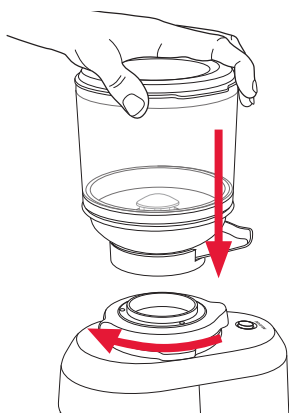

Figure 1
2. To attach the bean hopper, align the arrow on the hopper with the arrow on the top of the grind cartridge and turn clockwise to lock. See figure 1.